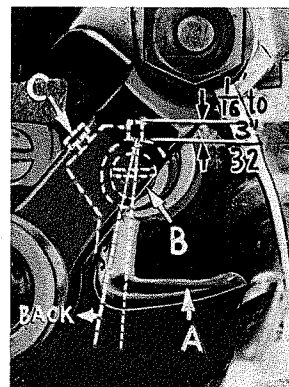

Fig. 8
Insert upper looper (A, Fig. 8) in its holder. Screw (B) holds upper looper in its holder, and permits it to be pushed in or out, or turned around its shank. Insert upper looper holder into upper looper shaft, if it is not already in place. Screw (C) on clamp holds the upper looper holder in the shaft. Locate upper looper in its holder so that the shank extends $1/16$ to $3/32$ inch beyond holder.
When the upper looper is at the right end of its stroke, upper looper holder should be set to position upper looper shank back of vertical (Fig. 8). Be sure there is a clearance between heel of looper and casting.